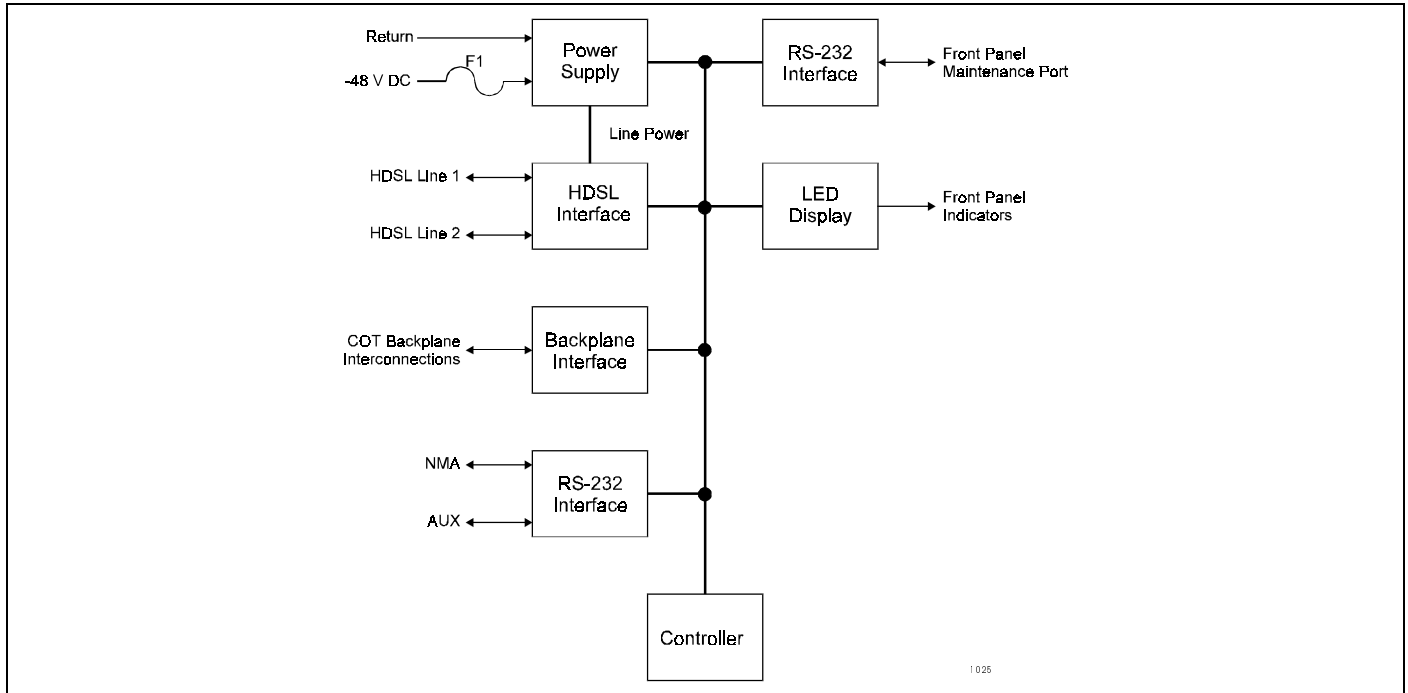

Figure 3. FLL-716 COT Line Unit Block Diagram.
6.02 A block diagram of the FLL-716 is shown in Figure 3. The power supply isolates and converts CO battery into the voltages used by PG-Flex, including ± 130 V dc, which is simplexed onto the HDSL lines. During power-up, the system automatically checks for HDSL line conditions which may indicate a problem with the line or which may present a potentially hazardous condition for the technician; under these conditions, PG-Flex will not complete the power-up process and indicate a line problem on the front panel LED indicators.